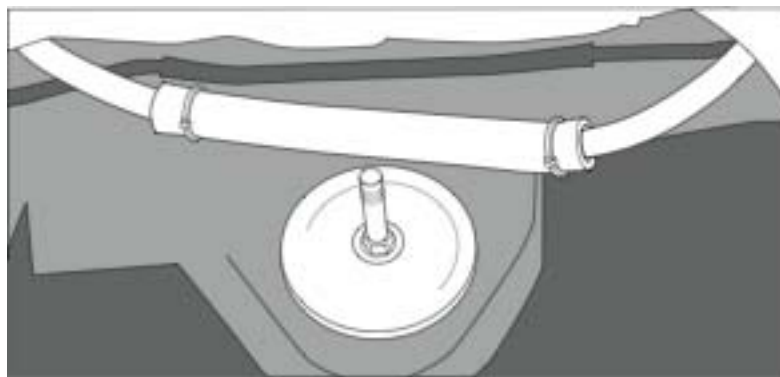

Figure 1: Protecting Hose Assembly
- To protect the ¼" hose from abrasion, slit and wrap a ½" hose over each ¼" hose where it comes close to moving or vibrating parts (Fig. 1). Also, to help the ¼" hose hold its shape and prevent kinking, add the ½" hose to the parts of the hose that bends.